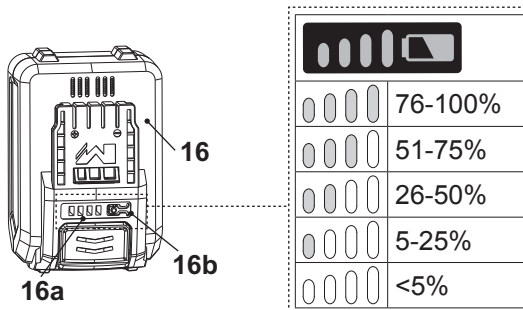

Fig. 6
The battery pack (16) is equipped with the battery capacity indicators (16a) which are used to give an indication of the battery pack's remaining capacity. Press the battery capacity button (16b) to check battery capacity (Fig. 6). The LEDs will stay lit for approximately 5 seconds.